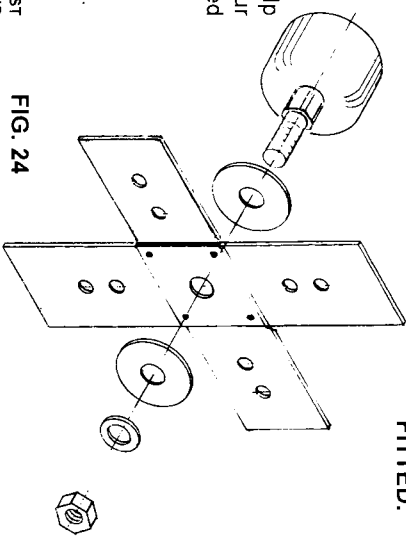

FIG. 24
4. Remove two small washers, one large washer and blade. Before fitting blade and washers, clean all grit and grease. Assemble these parts clean and dry. Fit large washer, new blade with flat blade on inside, large washer, 2 small washers, and nut. Fig. 24. Tighten nut.